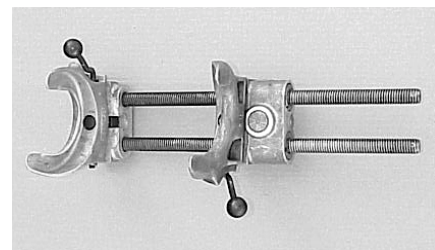

Figure 7
3) Compress a new coil spring (615) to 16" in length. Use a quality spring compressor like the one shown in figure 7.